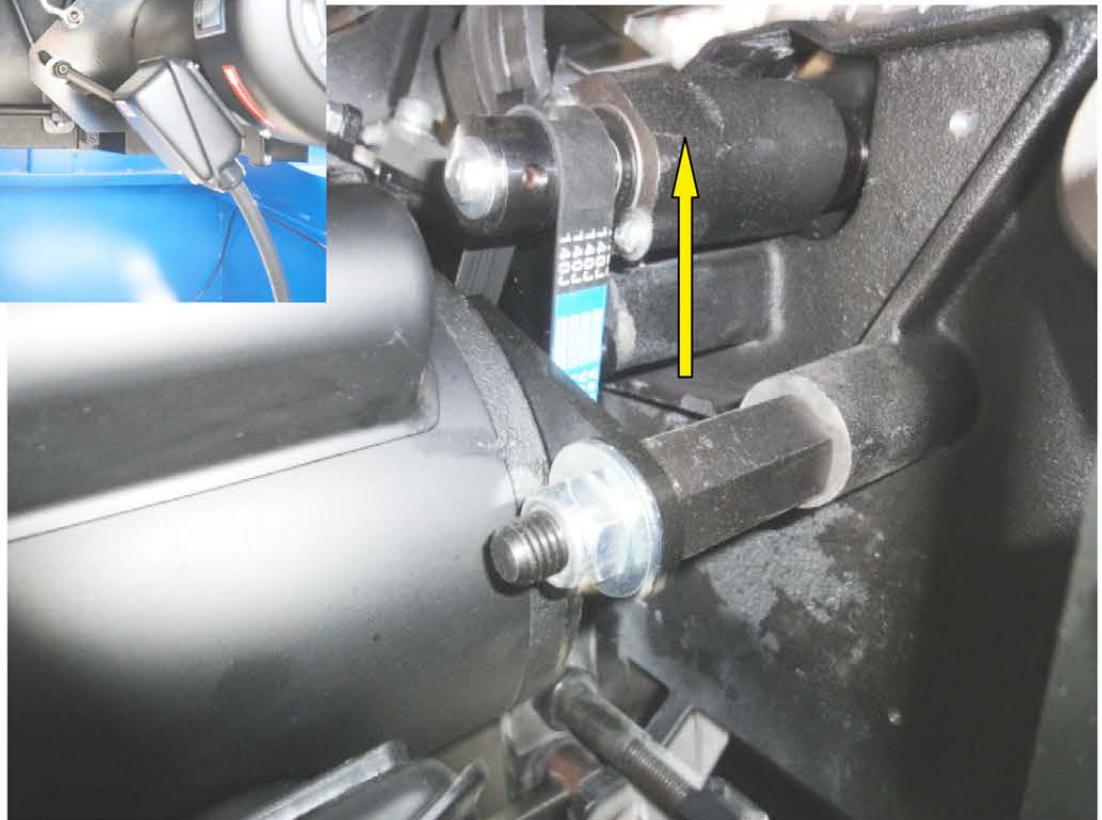

Figure 5-3.1
2. Make the whole motor unit 45° tilted and to the lowest position by turning the adjusting wheels (Fig. 5-3.1&1a)..